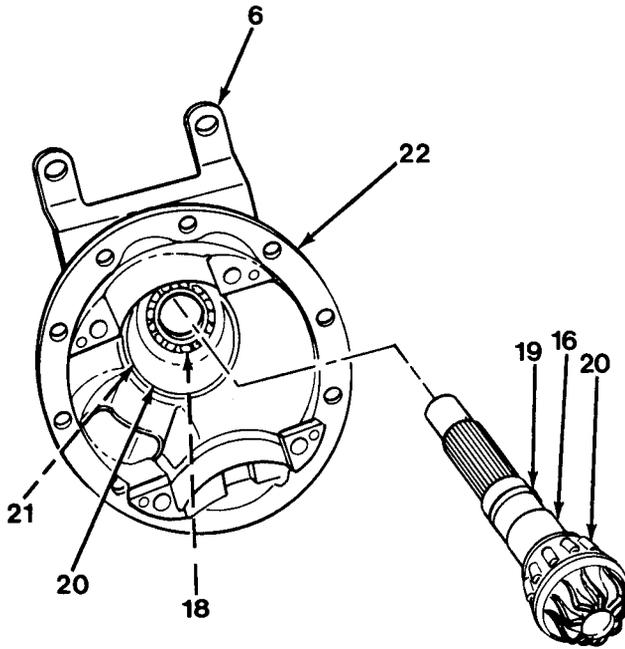

Figure 12-6
7. Using a bearing puller, remove bearing cone (20) from pinion (16, Figure 12-6).
8. Remove pinion bearing cups (18) and (20) and shim (21).
1. Install bracket (6) on carrier housing (22, Figure 12-6), if removed.
2. Determine the thickness of bearing shim (21) in carrier housing (22):
- a. Place flat plate across bearing cap mounting surfaces of each bearing bore of the carrier housing (22). Measure and record the distance from plate to bottom of bearing bore. Add together. The result is Q.